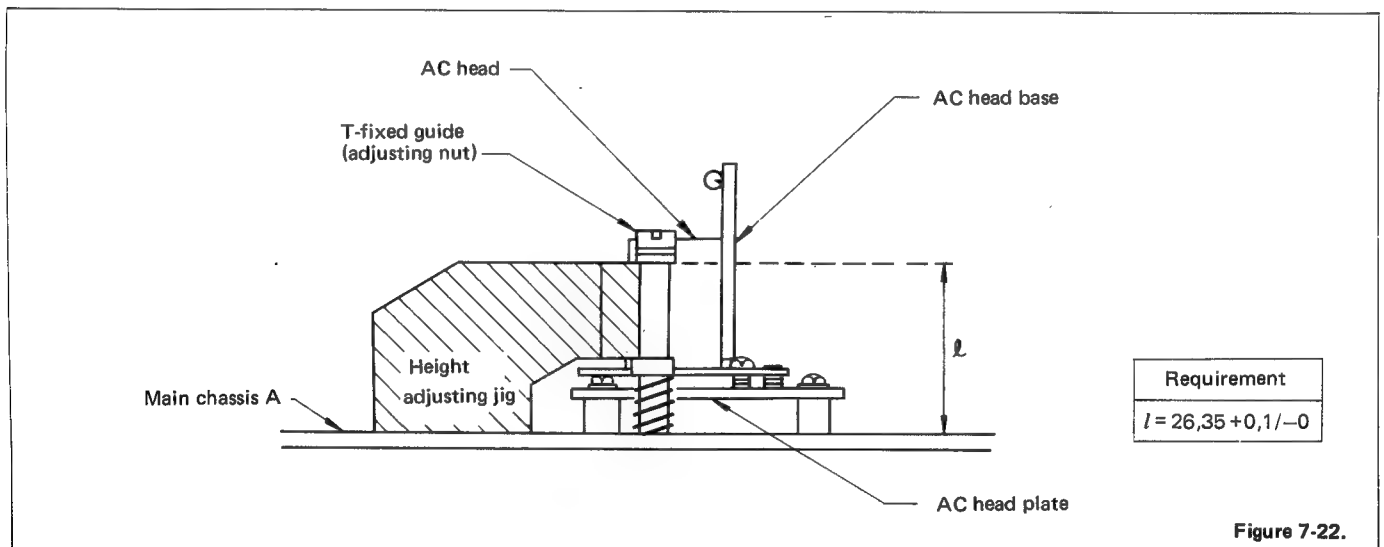

Figure 7-22.
- 1) Install the guide height adjusting jib on main chassis A (see Figure 7-22).